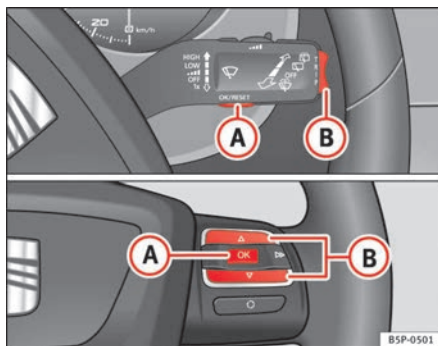

Fig. 41 Rocker buttons A and B. Steering wheel controls.
You can switch between the following displays in the multi-function display (MFD) by operating the rocker switch \Rightarrow fig. 41 (B) on the windscreen wiper lever.